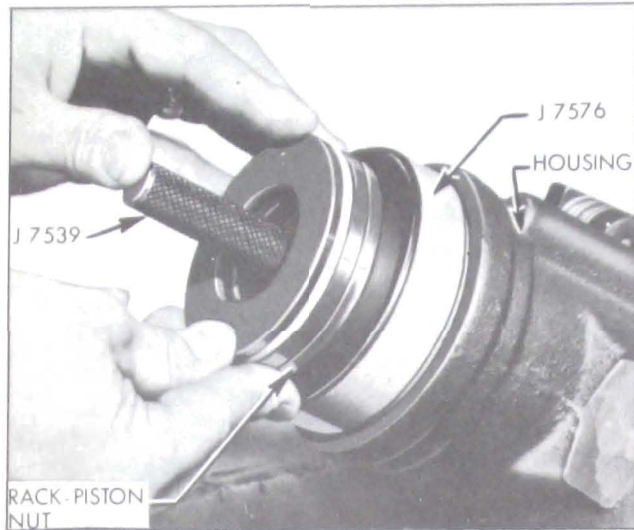

Figure 8-54—Installing Rack-Piston Nut
6. Install ring compressor sleeve tool J-7576 in gear housing and hold it tightly against shoulder in the housing. See Figure 8-54. Insert the rack-piston nut into the housing until the ball retaining tool J-7539 engages the worm. Turn the stub shaft, drawing the rack-piston nut into the housing. When the piston ring is into the housing bore, the ball retaining tool and the ring compressor may be removed.